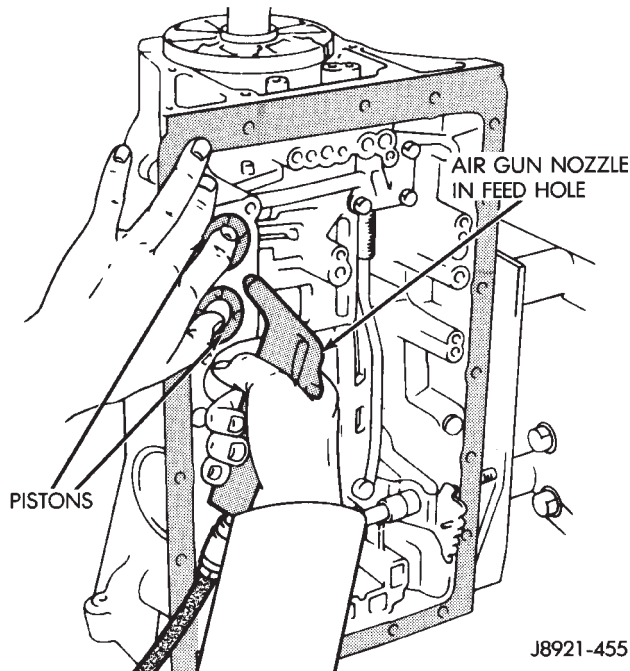

Fig. 70 Accumulator Piston Removal
- (1) Remove valve body.
- (2) Remove accumulator pistons with compressed air (Fig. 70). Apply air through small feed hole next